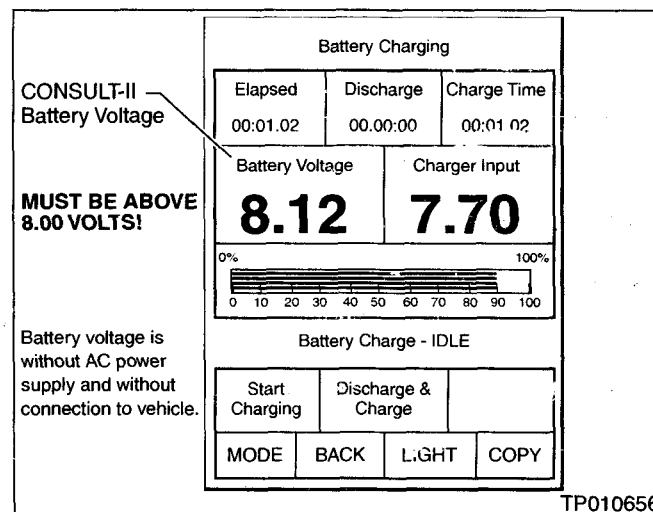

Figure 15
21. After about one minute has passed, check the CONSULT-II's battery voltage reading on the CONSULT-II screen (see Figure 15).